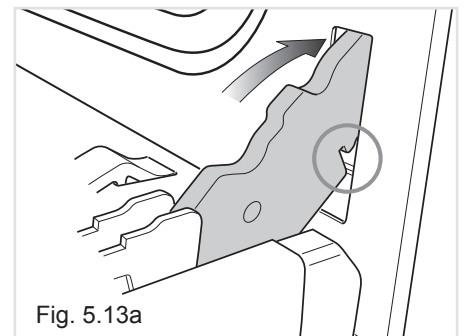

Fig. 5.13a
- Insert the hinge tongues into the slots, making sure that the groove drops into place as shown in the fig. 5.13a.